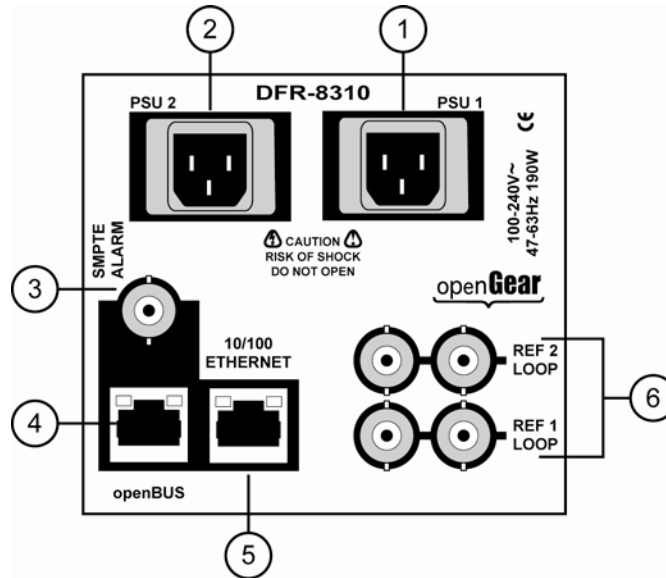
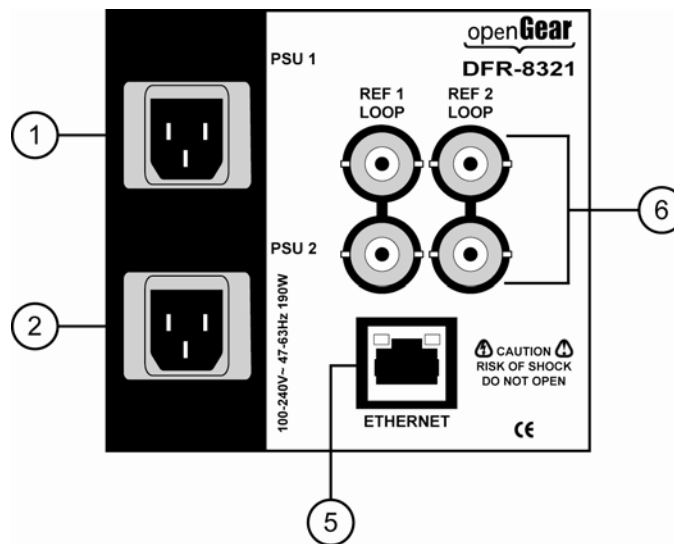

Figure 2.2 DFR-8310 Series Frames — COMM I/O
Figure 2.3 DFR-8321 Series Frames — COMM I/O
1. Connect the cable's female IEC connector to the frame socket marked **PSU 1** (**Figure 2.2** and **Figure 2.3**).
2. If the Redundant Power Supply option is installed, plug the second IEC connector into **PSU 2** (**Figure 2.2** and **Figure 2.3**).